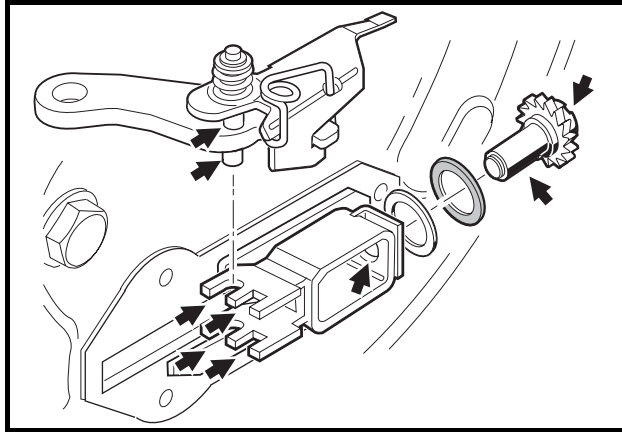

Figure 6-11 Apply Grease To Brake Adjuster
6. Use a small brush to carefully apply a light coat of white lithium NLGI #2 grease (Dow Corning BR2-Plus or equivalent) to the brake adjuster assembly, adjuster wheel shoe slots, and the shaft of the adjuster wheel as shown (**Figure 6-11, Page 6-6**). See preceding **WARNING**.